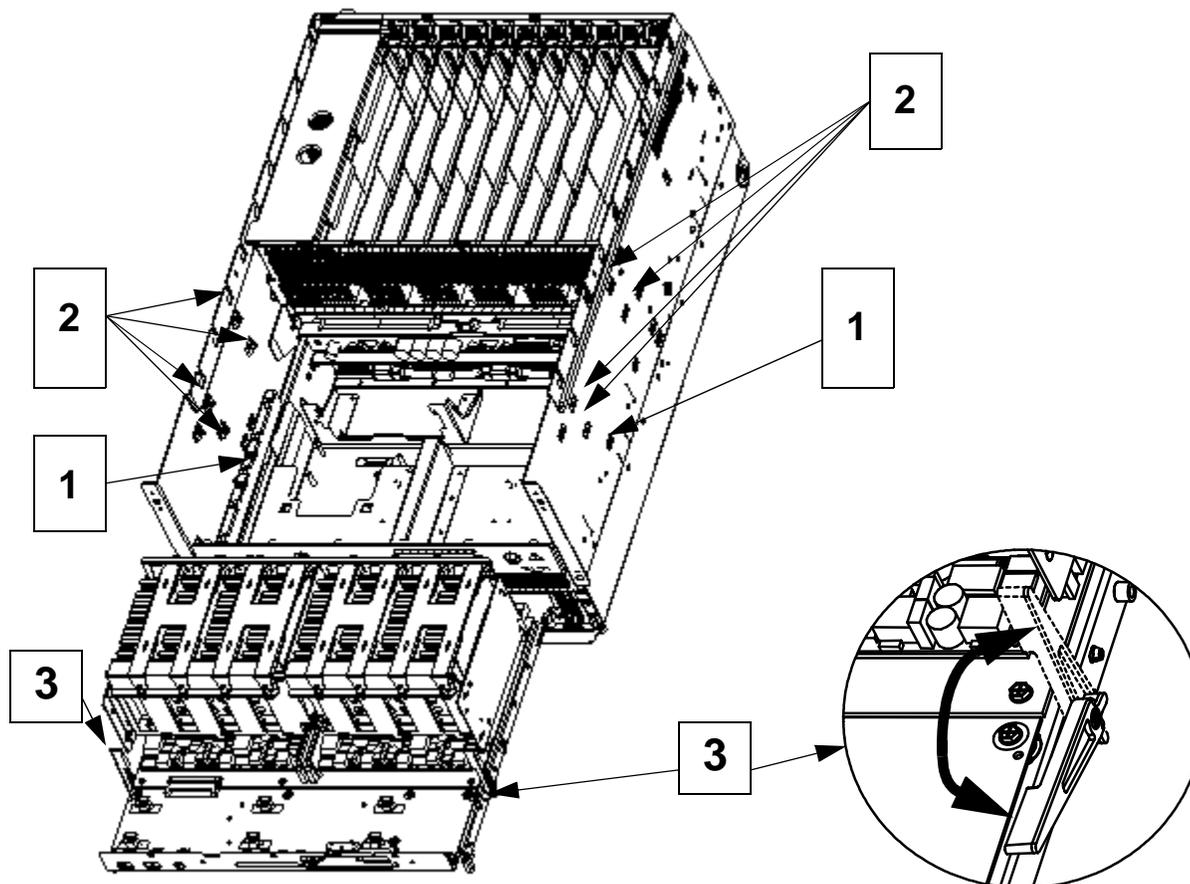

Figure 2-9: Profusion® Carrier Tray
nectors begin to engage, rotate the levers back until the connectors are fully engaged. Levers should be in an upright or near upright position. Secure the tray and the processor retention mechanism to the sides of the chassis with screws (1) and (2) as indicated in Figure 2-9.